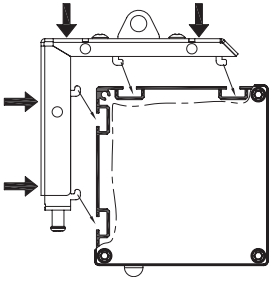

Fig. 16
3. Now attach the mounting brackets to the screen using the ceiling hangers, ensuring that the grooves in the housing align with the mounting brackets. Tighten the locking screws to secure the housing in the brackets. (Figs. 16 and 17)